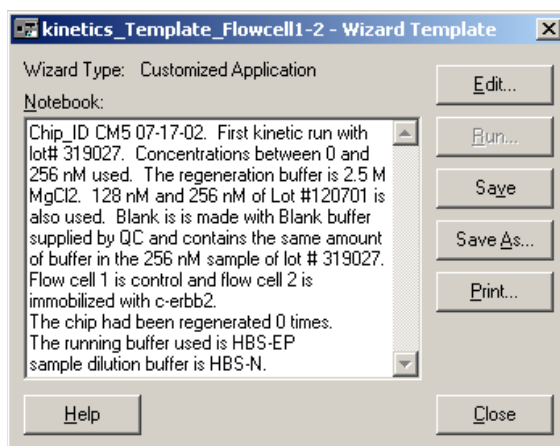

Figure 5.1 (This is only an example of a note; the analyst or operator will enter a specific note consistent with the experiment).
- 5.2 Write a brief note in the Notebook part. An example is shown in Figure 5.1